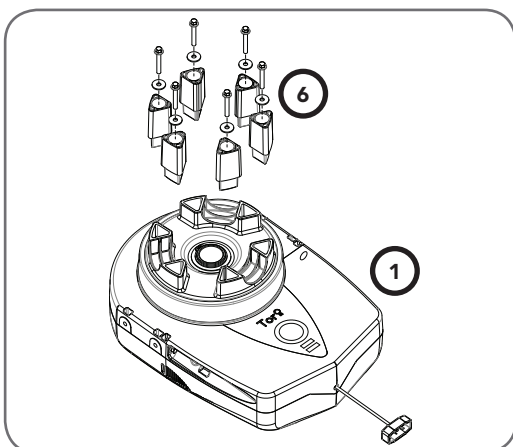

Fig 6.3
Attach and secure all six (6) forks (6) to the drive unit (1) with screws supplied (**Fig. 6.3**). All the six (6) forks must be used and properly engaged into the drum of the door for the opener to work effectively.